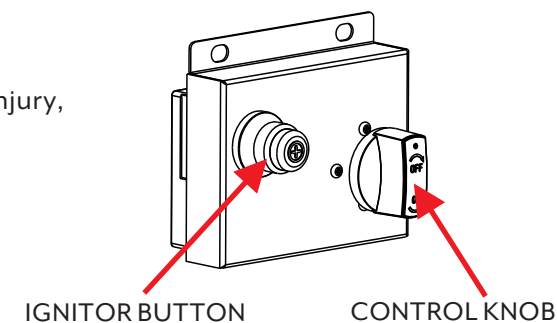

Figure 7
4. Adjust the flame to the desired amount by using the control knob. See Figure 7.